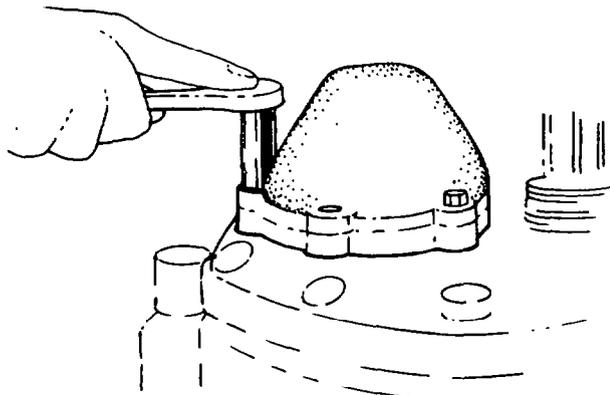

Fig. 265 — Installing Front Drive Shaft Bearing Cover
- ai. Install a new front drive shaft bearing retainer to bearing cover gasket, then install the bearing cover with retaining bolts. Torque the bolts to 40 – 55 Nm (30 – 40 lb.ft) (see fig. 265).